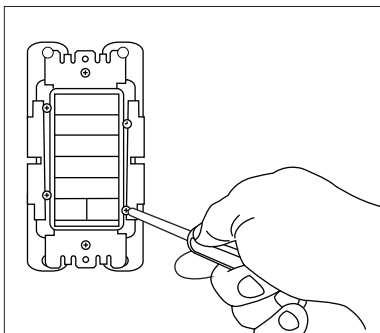

fig. 10
3. Using a Phillips (PH1) screwdriver, unscrew the bottom-right screw that holds the button chassis in place (see figure 10).